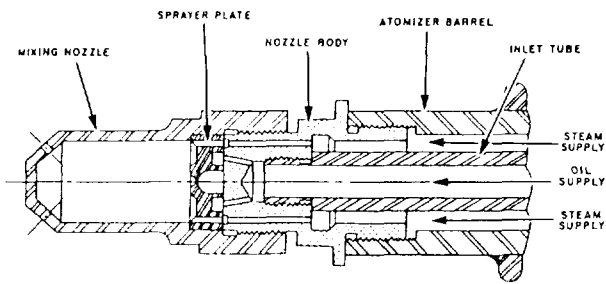
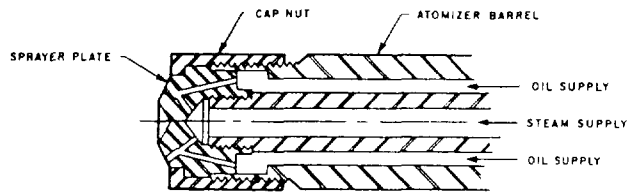

Figure 4-15.—TODD LVS atomizer.
Figure 4-16.—Y-Jet steam atomizer.
**Steam-Assist Atomizer.**— The steam-assist atomizer employs 150 psi of steam mixed with the fuel oil to help atomize the fuel oil. The two most common steam-assist atomizers in use by the Navy are the TODD LVS (fig. 4-15) and the Y-Jet (fig. 4-16). All steam-assist atomizers must have low-pressure air hookup for use as a substitute when suitable auxiliary steam is not available.